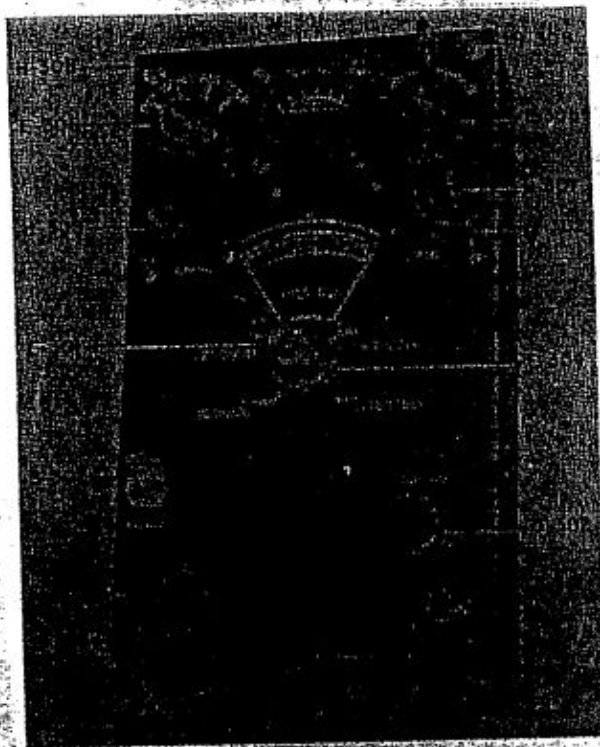

Figure 1-6. Control Box C-149/ARN-6 or C-149A/ARN-6
d. **CONTROL BOX C-149/ARN-6 AND C-149A/ARN-6.** (See figure 1-6.)—Control Boxes C-149/ARN-6 and C-149A/ARN-6 are rectangular shaped aluminum boxes with the necessary circuit elements and controls to provide complete remote control of the radio compass. For control from either of two positions, two control boxes are installed. The front panel contains the following: "OFF-COMP.-ANT.-LOOP" function switch, tuning meter, "LOOP L-R" switch, "LIGHT" control, dial, band switch, "CONTROL" switch, "TUNING" crank, "AUDIO" control, "CW-VOICE" switch, and "SPARE" bulb. Located on the end adjacent to the "AUDIO" control are the phone jack, and the flexible tuning shaft fitting. All electrical connections are made by a male connector located on the bottom of the control box. This male connector fits into a similar female connector located in the Control Box Mounting MT-275/ARN-6. The control box is held in the mounting by four captive screws.